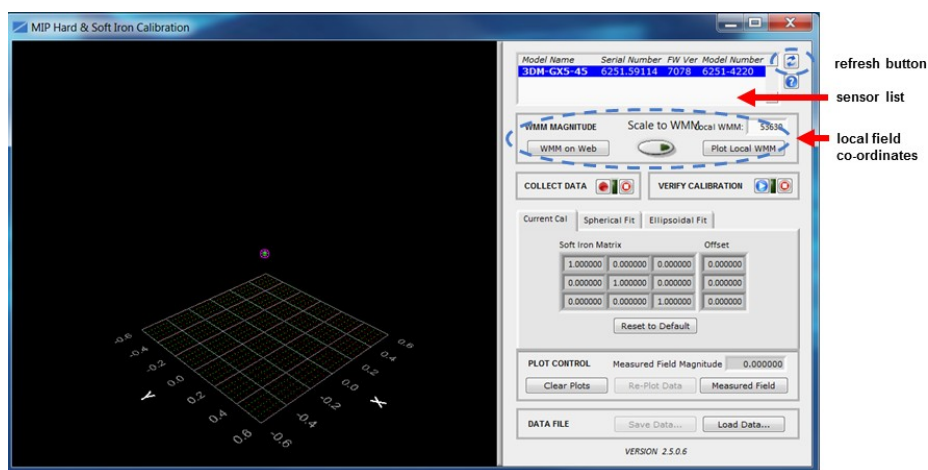

Figure 26. Sensor Menu
- 3 The sensor should automatically appear in the sensor list. If not, use the Refresh button to query it and then select the sensor (*Figure 26 - Sensor Menu* ).